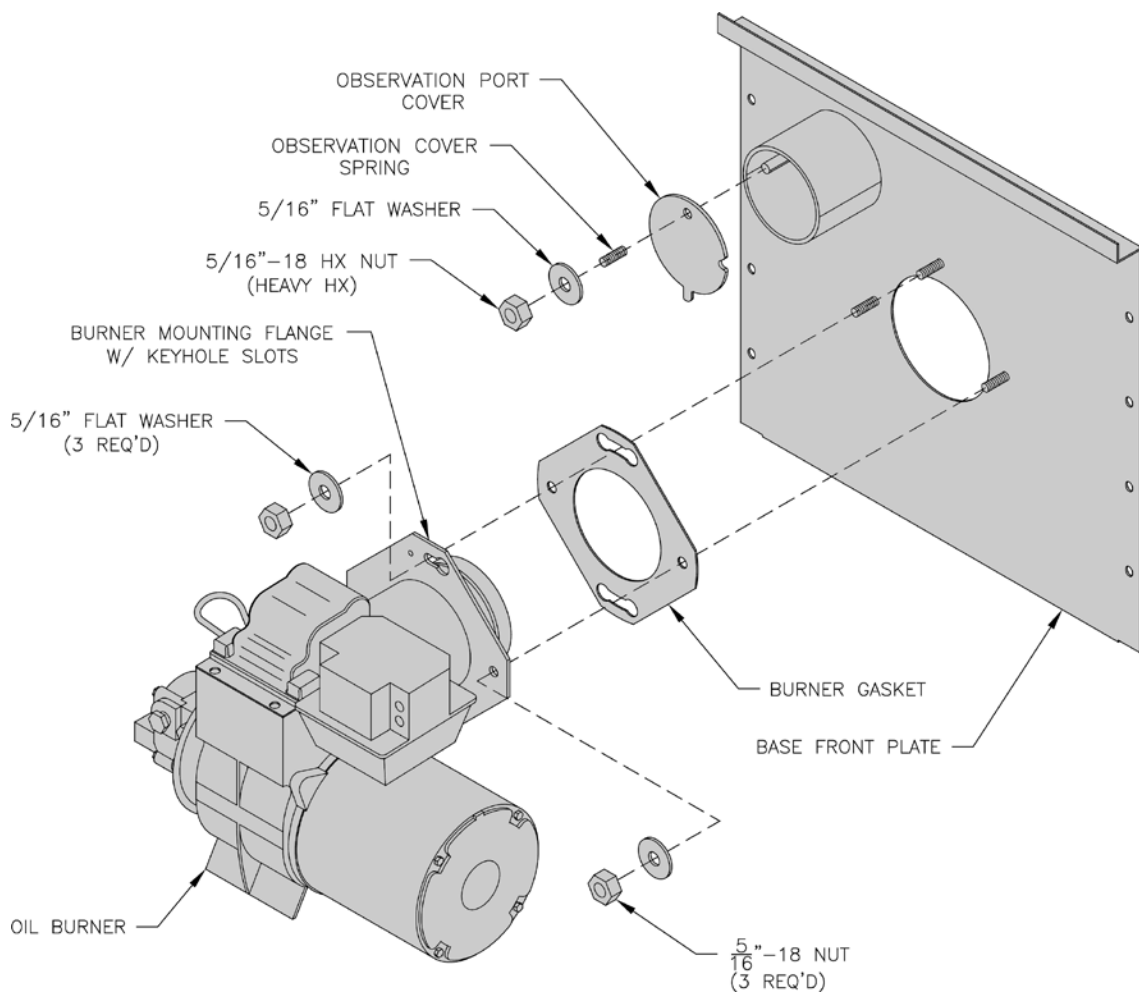

Figure 8: Burner Mounting
6. Re-install Observation Port Cover and related hardware in reverse order to removal. See Figure 8.
1. Insure burner gasket proper fit/positioning on burner air tube, relative to burner mounting flange, prior to burner mounting. See Figure 8.
2. Mount installer-supplied burner onto base front panel studs and secure with provided 5/16 flat washers and brass 5/16-18 hex nuts. Refer to Figure 8.